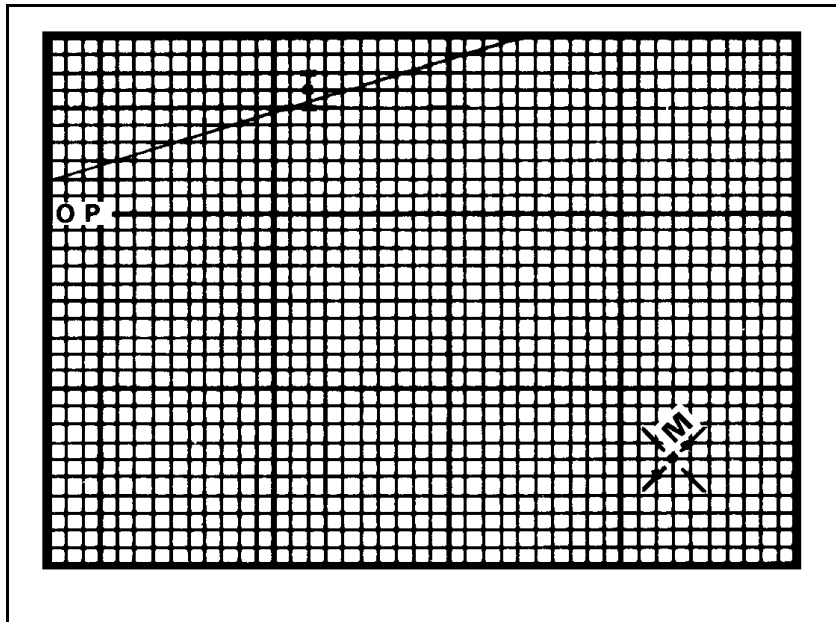

Figure 14-17. Plotting of No. 1, No. 2, and No. 3 mortars.
(4) Using the last plot, the computer draws the FPF symbol by extending a line 90 meters long toward the top of the board and 10 meters long from the plot towards the bottom of the board. This shows the full 100-meter width of the FPF.
(5) The remaining plots for the No. 1, No. 2, and No. 3 mortars are then plotted 40 meters apart (Figure 14-17).